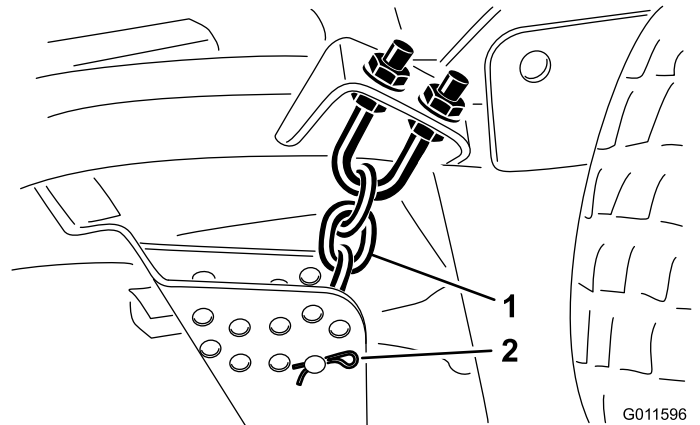

Figure 16
8. Remove the hairpin cotter and clevis pin securing the height-of-cut chains to the rear of the mower deck (Figure 16).